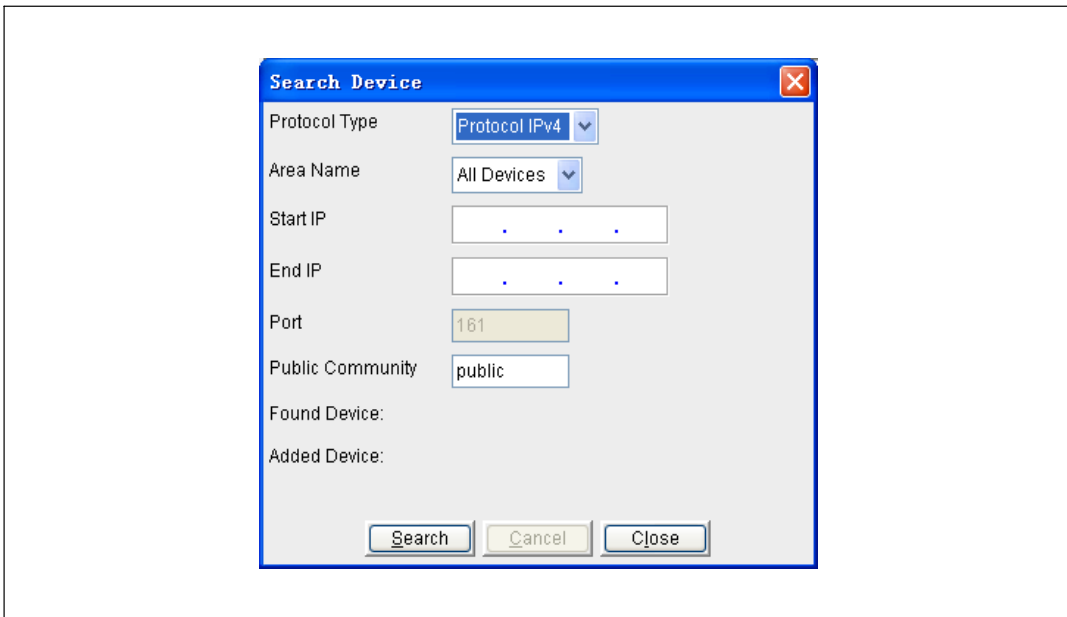

Figure 96. Search Device Window (IPv4)
- 2 Select the Internet Protocol Version supported by SNMP from the **Protocol Type** list (see Figure 96).
- 3 **IPv4 only.** Enter an IPv4 address in the Start IP field and the End IP field (see Figure 96).